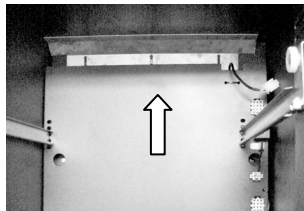

Figure 8: Turning Vane
7. Remove one of two existing Turning Vanes (see Fig. 8) located in center opening